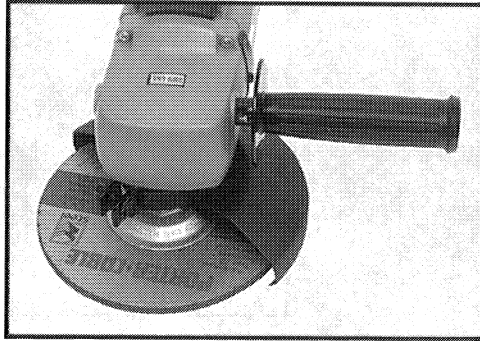

Fig. 5
4. Position guard so that flying chips or pieces of wheel that might accidentally break will be deflected away from the operator. Fig. 5 shows guard installed for use with depressed center grinding wheel.